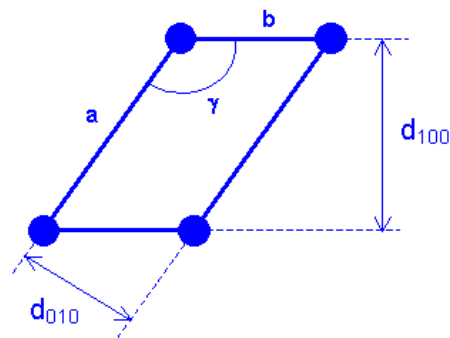

Figure 1.17: Two-dimensional direct lattice
and reflect the beam? The use of the reciprocal lattice to understand diffraction was demonstrated in 1913 by P. P. Ewald. The points of a reciprocal lattice represent the planes of the *direct* (i.e. real) lattice that it is formed from. The direct lattice determines (through defined relationships) the reciprocal lattice vectors, the lattice points spacings and the associated reciprocal directions. Consider the two-dimensional direct lattice shown in Fig. 1.17. It is defined by the real vectors \mathbf{a} and \mathbf{b} , and the angle γ . The spacings of the (100) and (010) planes (i.e. d_{100} and d_{010}) are shown. A three-dimensional direct lattice would introduce a lattice vector \mathbf{c} perpendicular to the plane of the diagram.